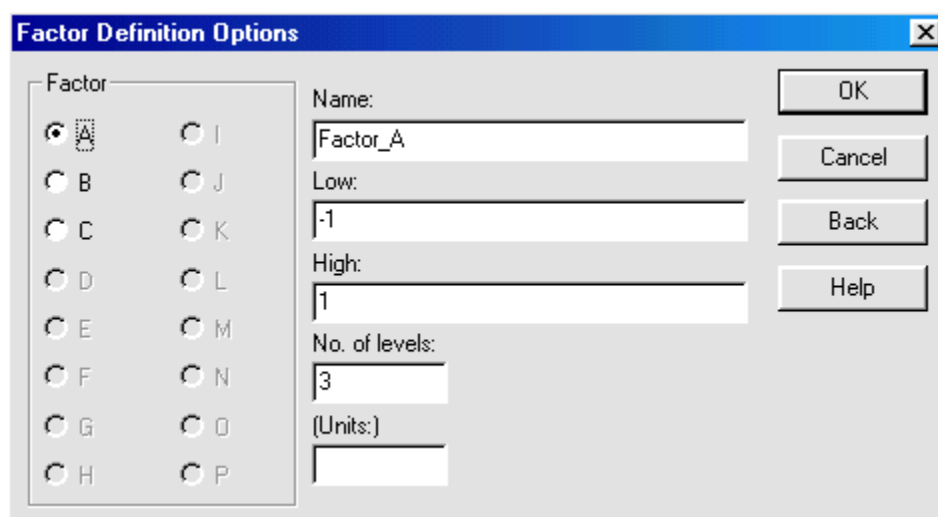

Figure 6-2. Factor Definition Options Dialog Box
3. Click OK to display the Factor Definition Options dialog box shown in Figure 6-2.